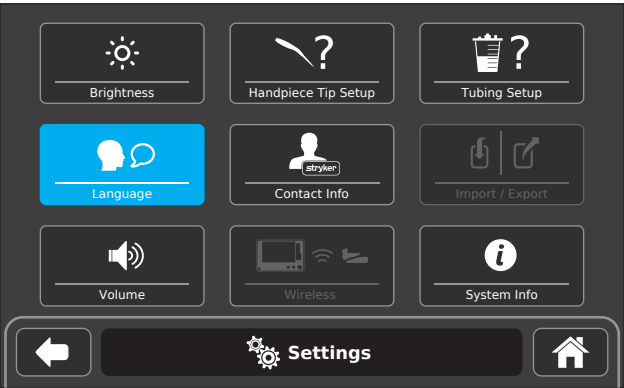

Figure 44 – Language Selection
2. From the system SETTINGS screen, touch the LANGUAGE button (Figure 44). See Table 19 Display Screen Languages.